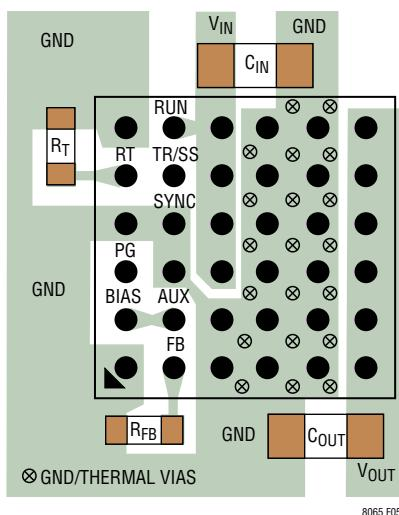

Figure 5. Layout Showing Suggested External Components, GND Plane and Thermal Vias
Most of the headaches associated with PCB layout have been alleviated or even eliminated by the high level of integration of the LTM8065. The LTM8065 is nevertheless a switching power supply, and care must be taken to minimize EMI and ensure proper operation. Even with the high level of integration, you may fail to achieve specified operation with a haphazard or poor layout. See Figure 5 for a suggested layout. Ensure that the grounding and heat sinking are acceptable.
6. Use vias to connect the GND copper area to the board's internal ground planes. Liberally distribute these GND vias to provide both a good ground connection and thermal path to the internal planes of the printed circuit board. Pay attention to the location and density of the thermal vias in Figure 5. The LTM8065 can benefit from the heat-sinking afforded by vias that connect to internal GND planes at these locations, due to their proximity to internal power handling components. The optimum number of thermal vias depends upon the printed circuit board design. For example, a board might use very small via holes. It should employ more thermal vias than a board that uses larger holes.